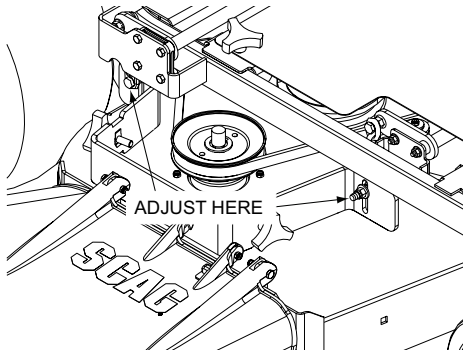

Figure 6-5. Cutter Deck Level Adjustment
1. If the cutter deck is lower on one side, loosen the elastic stop nuts securing the hanger chains to the cutter deck on the front and rear of the lower side. See Figure 6-5.
2. Move bolts on the front and rear deck hanger chains up or down in the slots until the cutter deck is level between both sides. See Figure 6-5.
3. Hold the cutter deck in position and tighten the two (2) elastic stop nuts to secure the cutter deck in the proper position.